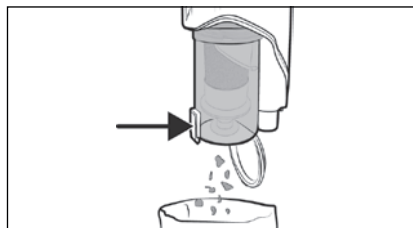

Fig. 21
① Note
- 1) Hold the dirt container **7** in a waste bin and press the release button for the dirt container lid **8**. The dirt container lid **9** opens and the contents are emptied into the waste bin (see Fig. 21). Then close the dirt container lid **9**.